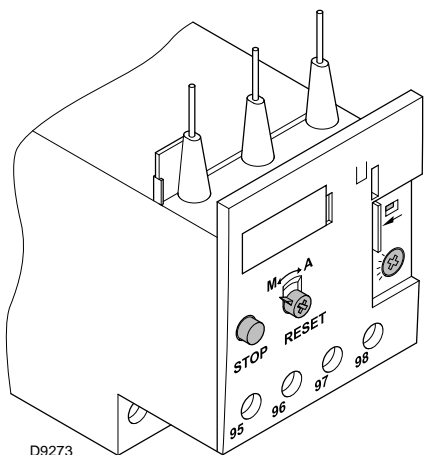

Fig. 17
The electro-mechanical thermal relay (Fig. 17) is used to avoid damage to the motor owing to a strong increase in absorption or the lack of a phase.
- To reset, in the case of an intervention of the thermal relay, press the button "RESET" (Fig. 17).
- The button "STOP" (Fig. 17) opens the NC (95-96) contact and stops the motor.